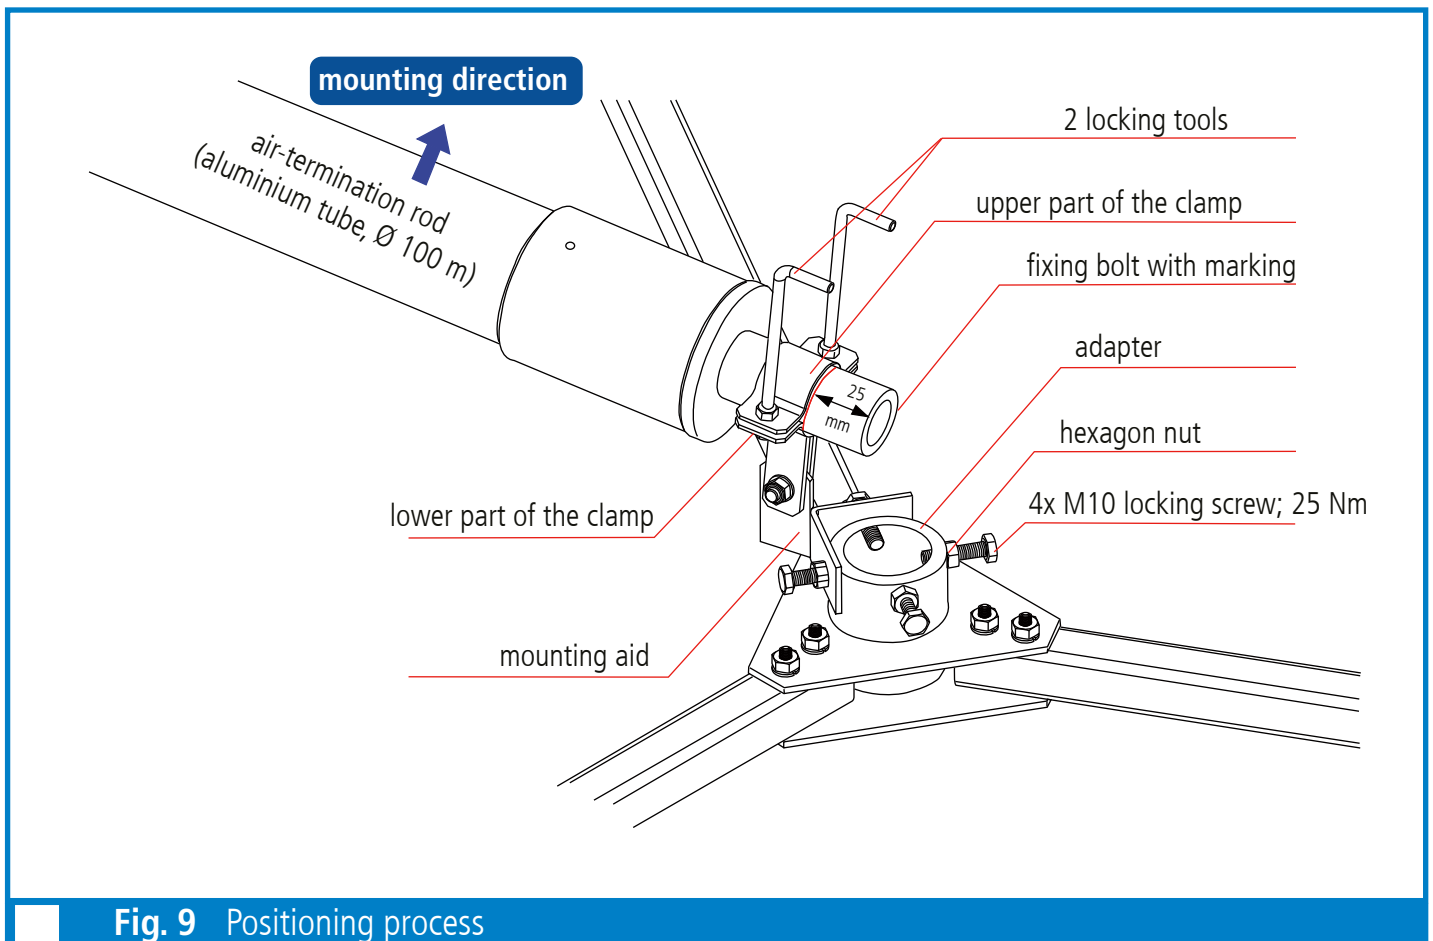
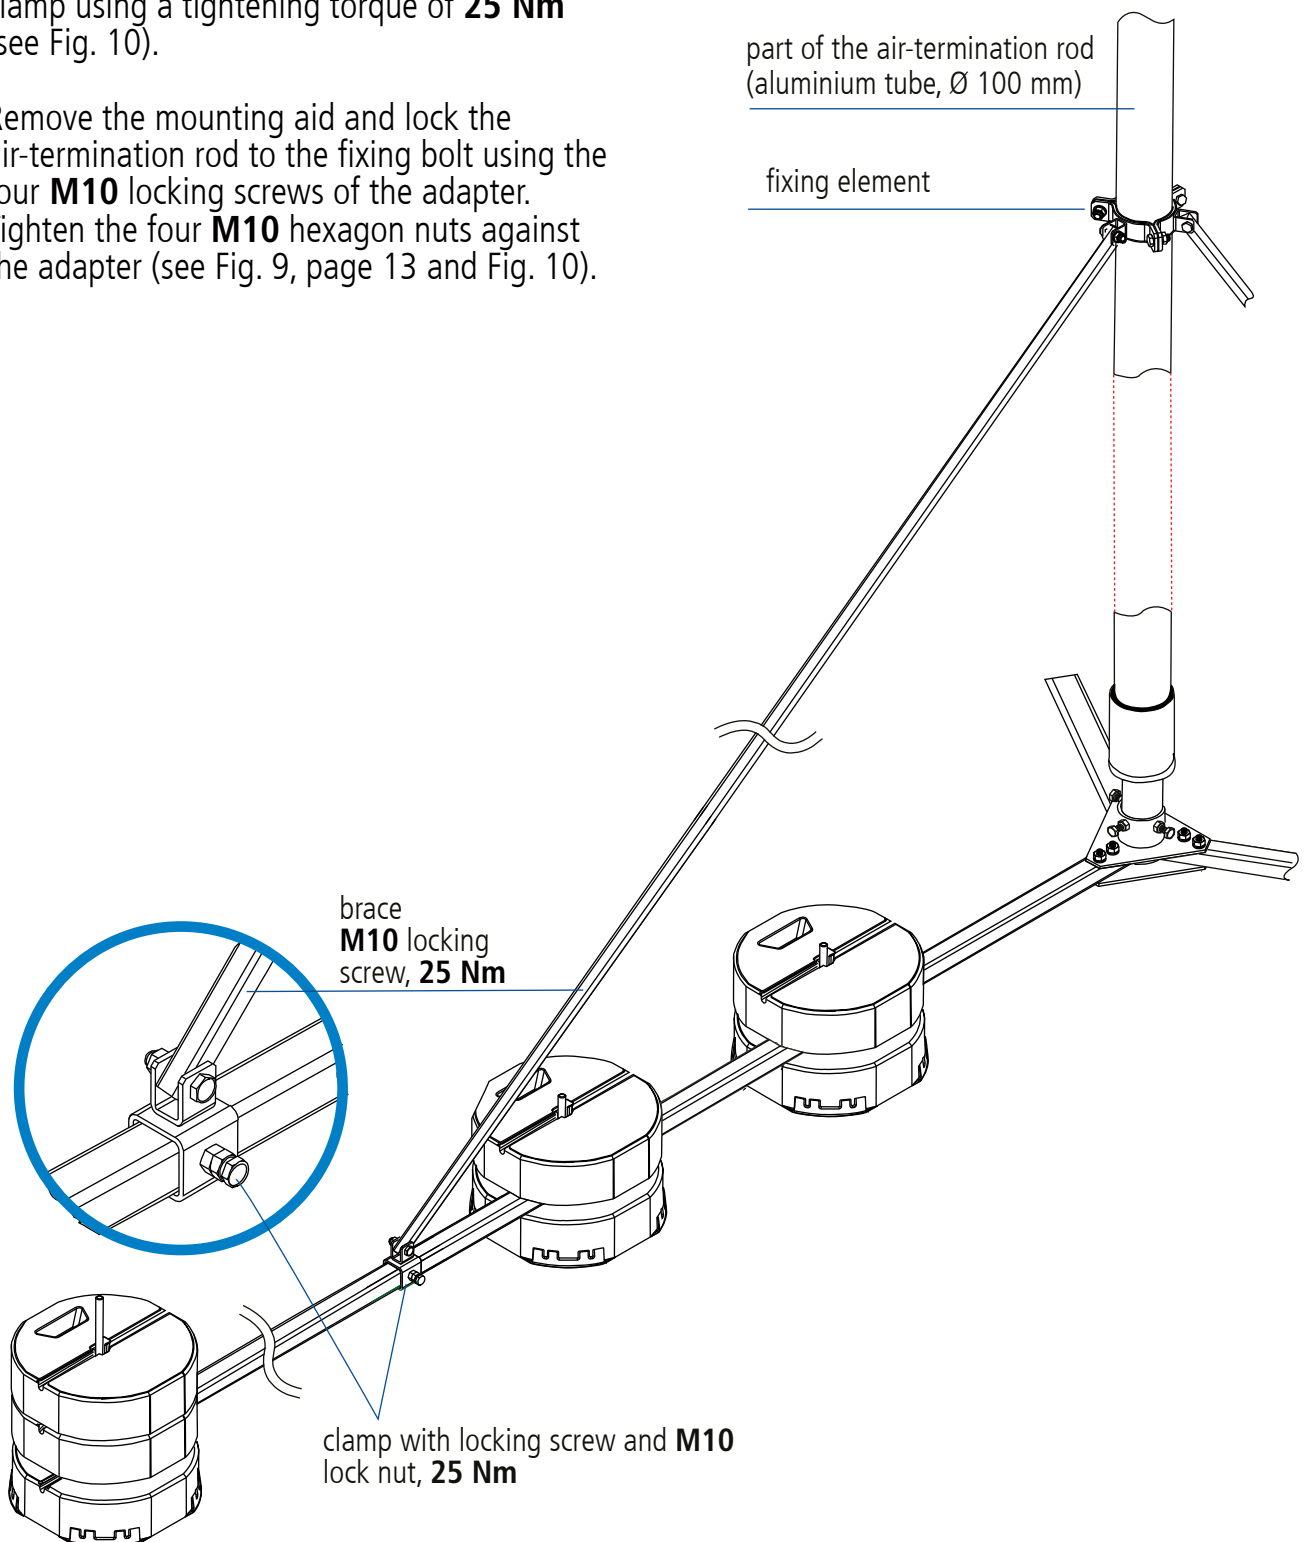

Fig. 9 Positioning process
Fig. 10 Tripod
3.5 Positioning air-termination rods of 12 m, 13 m or 14 m length (see also Fig. 9)
- ➔ Position the air-termination rod until it reaches the vertical position. The fixing bolt is automatically inserted into the adapter of the brace frame (see Fig. 9 and Fig. 10, page 14).
- ➔ While the air-termination rod is kept in the vertical position, loosen the two locking tools so that the air-termination rod completely slides into the adapter (see Fig. 9, page 13)..
- ➔ Then, screw the three braces to the relevant clamp using a tightening torque of **25 Nm** (see Fig. 10).
- ➔ Remove the mounting aid and lock the air-termination rod to the fixing bolt using the four **M10** locking screws of the adapter. Tighten the four **M10** hexagon nuts against the adapter (see Fig. 9, page 13 and Fig. 10).
Depending on the inclination angle of the air-termination rod (adapter), the braces must be screwed to the tripod via the clamps using a tightening torque of **25 Nm** (see Fig. 10, page 14).